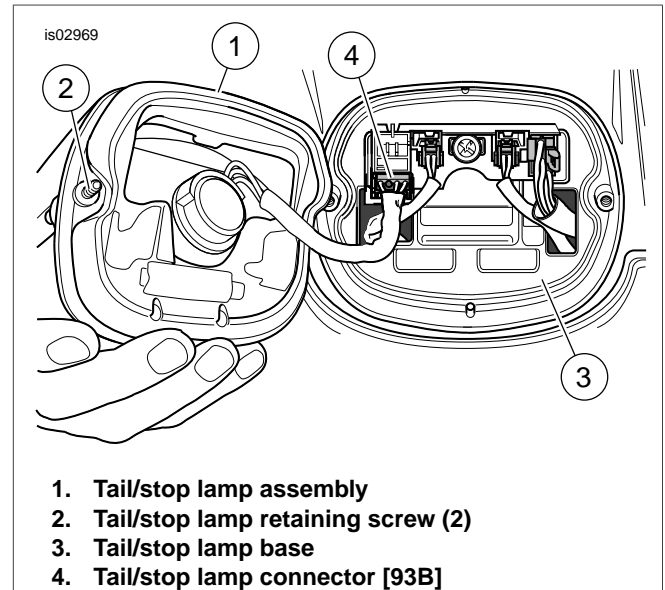

Figure 1. Removing the Tail/Stop Lamp Assembly
*Figure 1 shows the original equipment tail/stop lamp mounted to a full fender. The lamp is rotated 180° when mounted to a Bobtail fender.*
2. See Figure 1. Loosen the two screws (2) retaining the tail/stop lamp assembly (1) to the lamp base (3), and pull the lamp assembly away from the base.
3. Push the locking tab (button), and disconnect the tail/stop lamp connector [93B] (4) from the circuit board. Remove the lamp from the vehicle.
*See Figure 1. Lamp assembly (1) attaches as shown on full fender models. On Bobtail models, lamp assembly is rotated 180°. The logo (2) is not factory installed so logo can be installed in the upright position.*